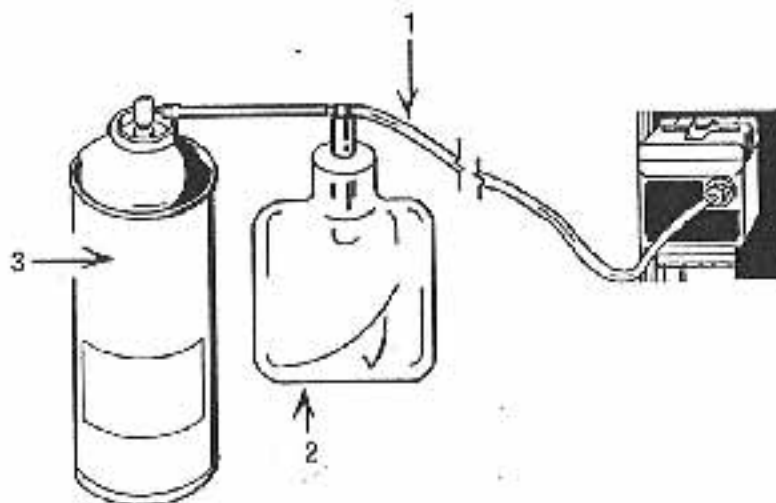

Figure 2-2. Zero and span calibration connections
1. Connect one end of a single-lumen sample line to the sample inlet. Connect the other end to the calibration bag. Connect the bag to the adapter tube provided with the calibration gas canister; see Figure 2-2.
2. To span the unit for ISO, ENF, and DES, connect the SpanA calibration gas through the calibration bag and the sample line (see Figure 2-2). Do not spray gas yet.